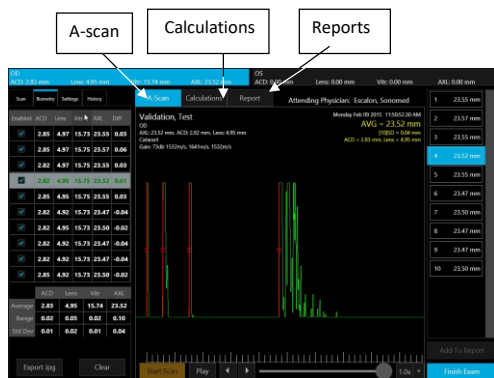

Fig. 4
- ① Select the desired **OD/OS** tab located on the top of the display. Then proceed as follows: (see Fig. 4)
Once the user has reviewed and is satisfied with the scan results, the CALCULATIONS tab, located at the top of the measurement display screen, should be selected. (See Fig. 4)